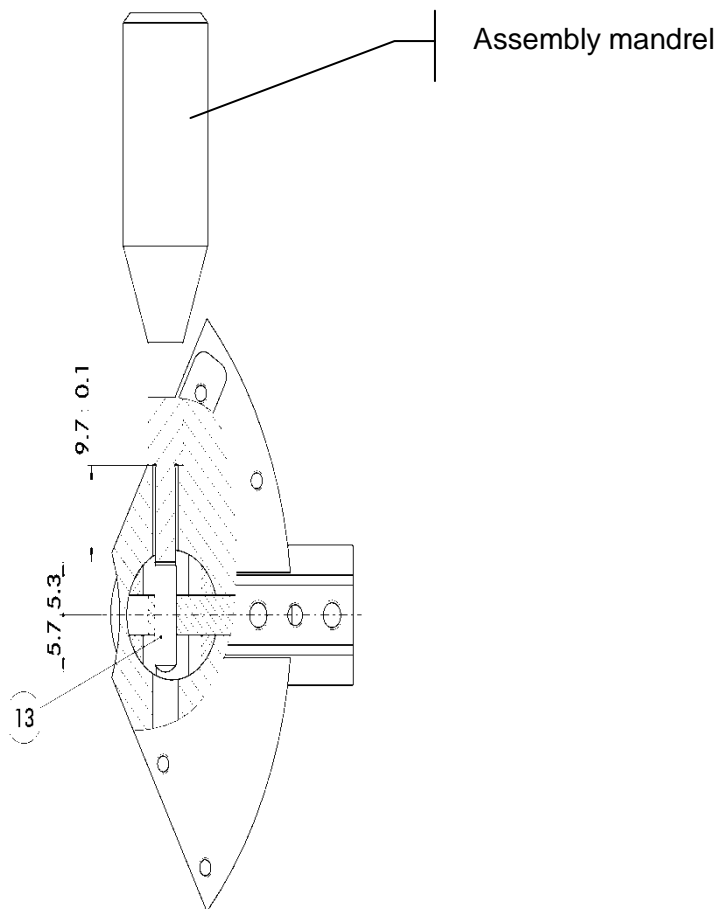

Figure 49: Assembly of cylindrical pins (item 13)
- The three cylindrical pins (item 13) must be pressed **into the centre of** the angle lever triple jaw B (item 18) with an assembly rod, see Figure 49. Please observe the exact assembly dimension and the exact assembly position of the cylindrical pins (item 13).